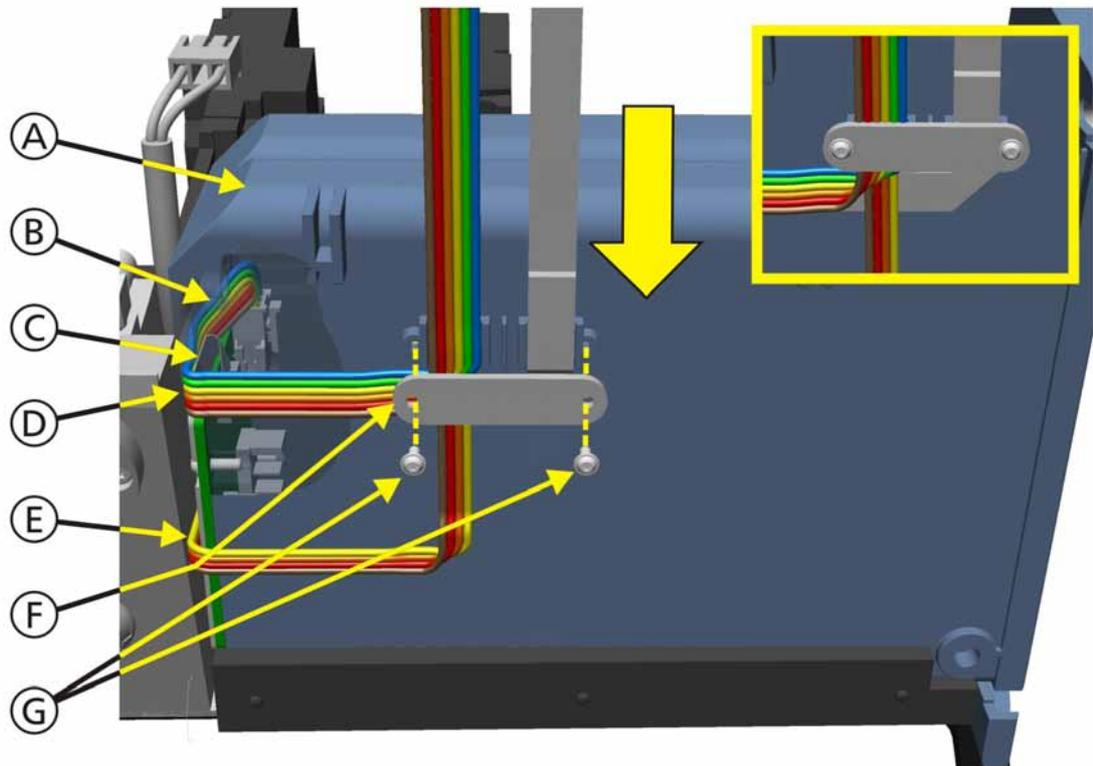

Figure 11-54. Battery Compartment Assembly
- Figure 11-54, *Battery Compartment Assembly*, on page 11-61